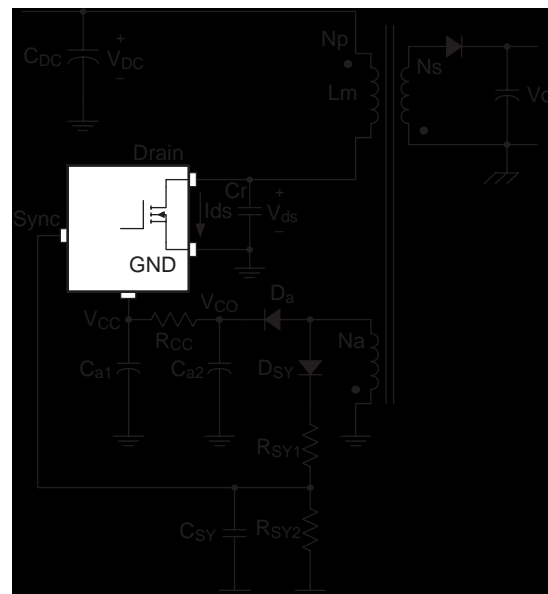
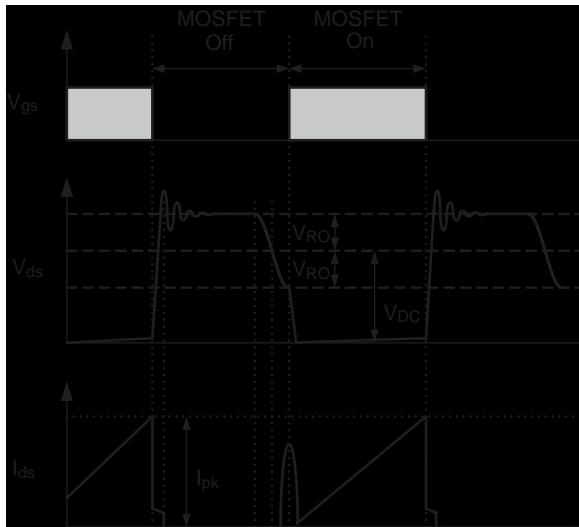
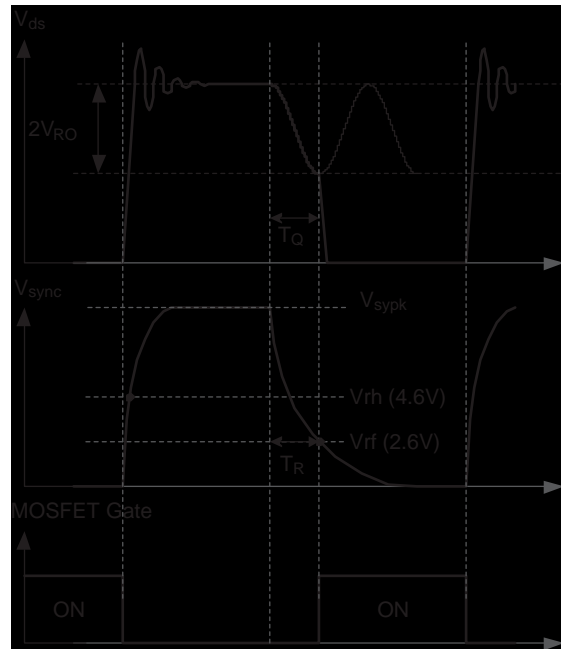

Figure 6. Synchronization Circuit
Figure 7. Quasi-Resonant Operation Waveforms
Figure 8. Normal Quasi-Resonant Operation Waveforms
2. Synchronization: The FSCQ-Series employs a quasi-resonant switching technique to minimize the switching noise and loss. In this technique, a capacitor (C_r) is added between the MOSFET drain and the source as shown in Figure 6. The basic waveforms of the quasi-resonant converter are shown in Figure 7. The external capacitor lowers the rising slope of the drain voltage to reduce the EMI caused when the MOSFET turns off. To minimize the MOSFET's switching loss, the MOSFET should be turned on when the drain voltage reaches its minimum value as shown in Figure 7.
The minimum drain voltage is indirectly detected by monitoring the Vcc winding voltage as shown in Figure 6 and 8. Choose voltage dividers, R_{SY1} and R_{SY2} , so that the peak voltage of the sync signal (V_{syPk}) is lower than the OVP voltage (12V) to avoid triggering OVP in normal operation. It is typical to set V_{syPk} to be lower than OVP voltage by 3–4V. To detect the optimum time to turn on MOSFET, the sync capacitor (C_{SY}) should be determined so that T_R is the same with T_Q as shown in Figure 8. The T_R and T_Q are given as, respectively: